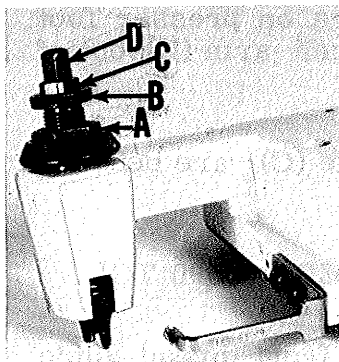

Fig. 2
Sufficient presser foot pressure to feed work uniformly should be maintained. Should it be necessary to increase or decrease amount of pressure on presser foot, loosen lock nut (A, Fig. 2) and turn adjusting screw (B). Adjusting screw has a right hand thread, so tightening increases pressure, loosening decreases pressure. When pressure adjusting screw (B) has been properly set, tighten lock nut (A). With presser foot resting on throat plate, position locking nut (C) so that its under surface is approximately 1/32 to 1/16 inch (.79 to 1.59 mm) from the top surface of adjusting screw (B). Set cap (D) against locking nut (C).